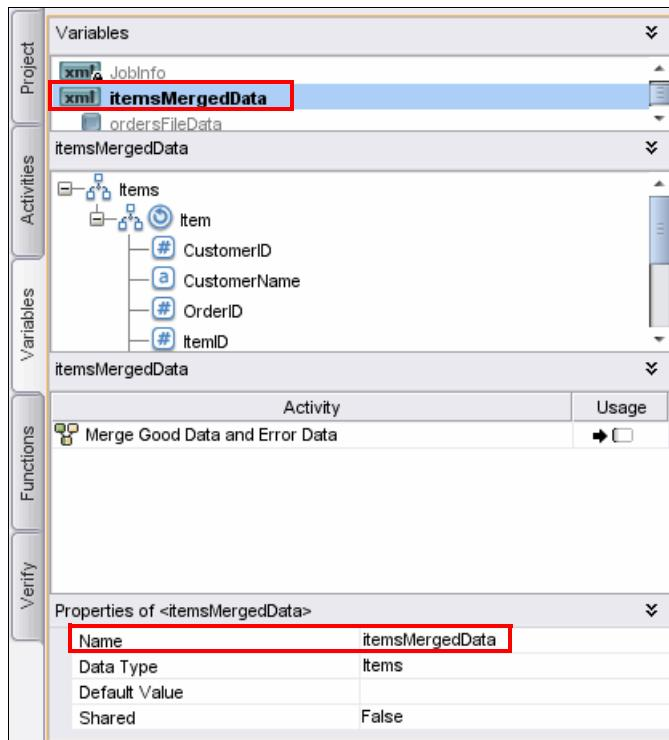

Figure 12-63 Renaming the mergeXML variable to itemsMergedData
5. Now, give a proper name to the variable copied in the Map Outputs panel. Select the Variables tab. Find and select the variable named **mergedXML**. Rename it to **itemsMergedData** in the properties panel located at the bottom, as shown in Figure 12-63.